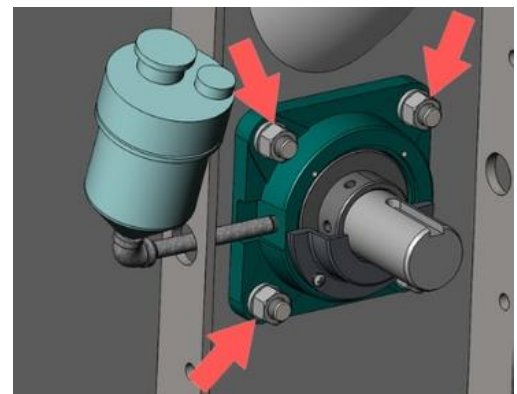

Figure 3
3. Remove the 4 nuts holding the bearing to the head. With the hardware removed pull the bearing off shaft. See Figure 3